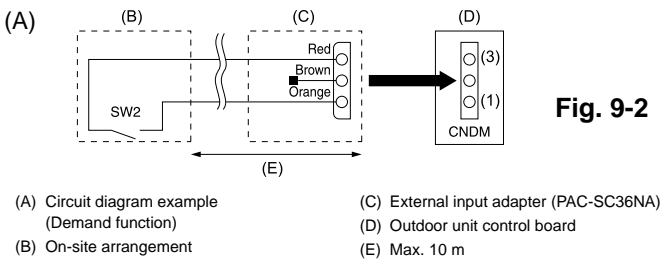

Fig. 9-2
- 9.2. Demand function (on-site modification) (Fig. 9-2)**